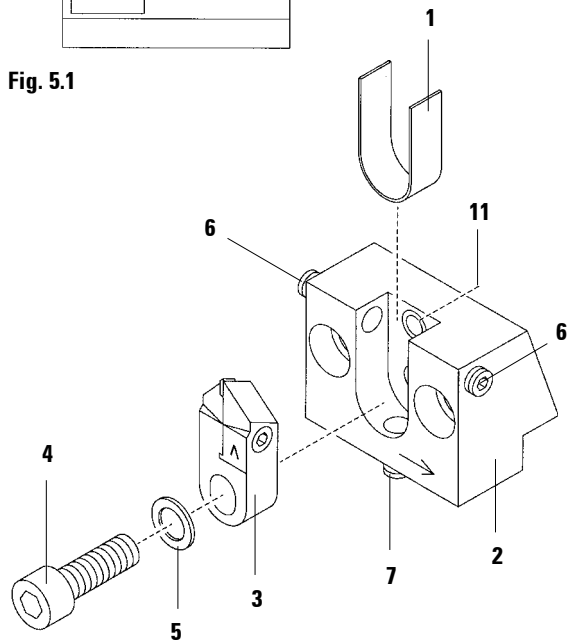

Fig. 5.2
Do not tighten screws (6) too much. If screws (6) are too tight, screw (7, Fig. 5.2) (for adjustment along the y-axis) can no longer be moved.
Do not tighten screws (4, 11) too much. If screws (4, 11) are too tight, screw (7, Fig. 5.2) (for adjustment along the y-axis) can no longer be moved.